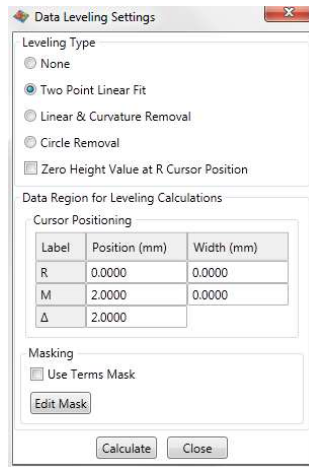

Figure 17: Data Leveling Settings Dialog Box
- Left-click the mouse while hovering over the Data Leveling button on the right side of the screen. This activates a menu with various leveling options available (see Figure 17).